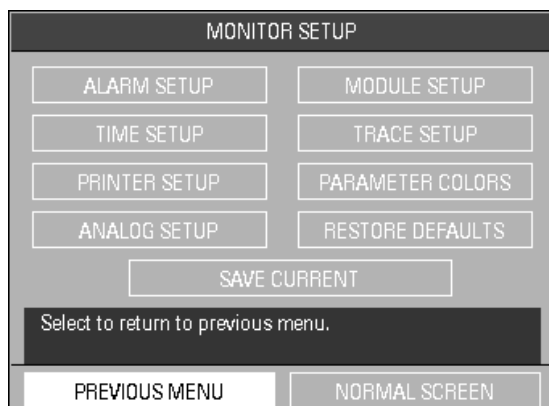

FIGURE 2-5 Monitor Setup Menu
1. Select **MONITOR SETUP** from the **SYSTEM MENU**. The **MONITOR SETUP** menu, containing various submenus (FIGURE 2-5), is displayed.
Select **ALARM SETUP** from the **MONITOR SETUP** menu (see FIGURE 2-5).